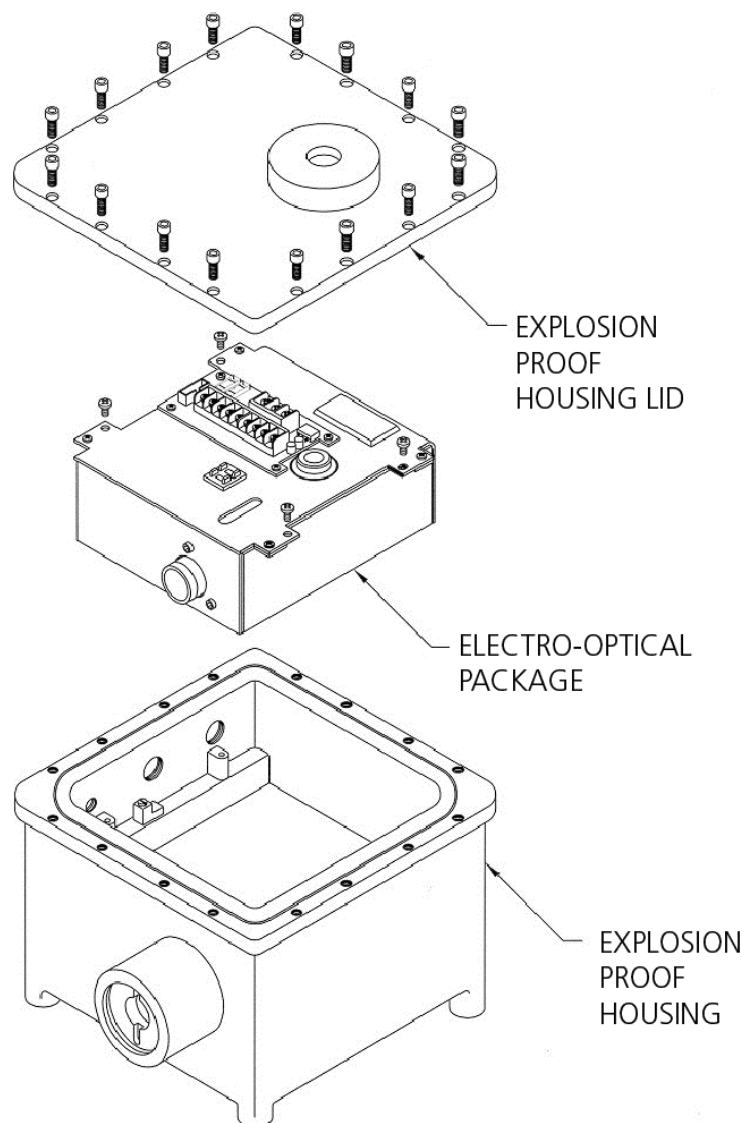

Figure 1: M8100 Housing and Electro-Optical Package
The heart of the LumaSense E²T QUASAR M8100-EXP Flare Monitoring System is the non-contact infrared Electro-Optical package, which can be removed from the explosion proof housing for repairs or replacement, while leaving all wiring and alignment of the system intact (see Figure 1).
- An Electro-Optical package that is easy to remove from the explosion-proof housing, minimizing downtime and increasing reliability (see Figure 1).